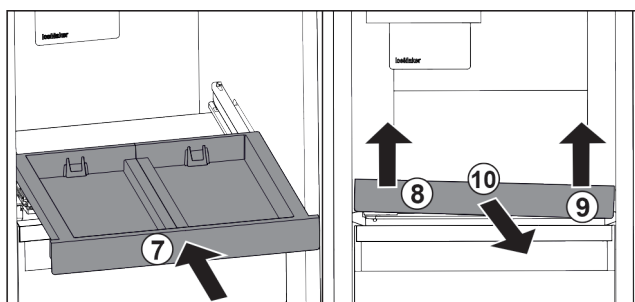

Fig. 125
- ▶ Slide in the pull-out board. Fig. 125 (7)
- ▶ Lift the pull-out board at the front left. Fig. 125 (8)
- ▶ Lift the pull-out board at the front right. Fig. 125 (9)
- ▶ Take out the pull-out board to the front. Fig. 125 (10)